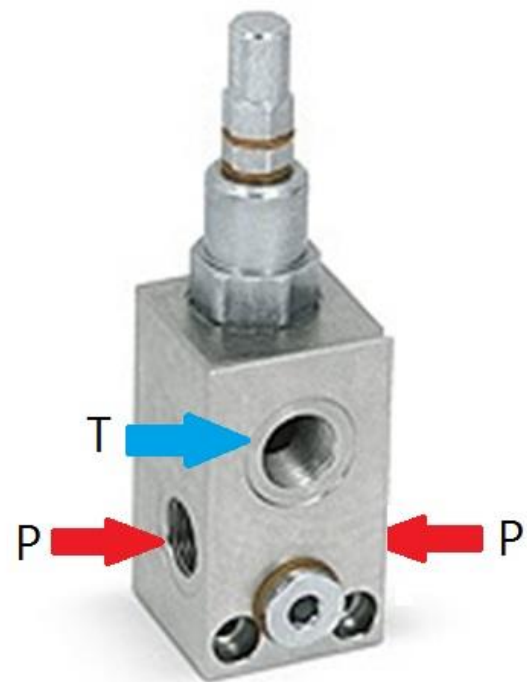
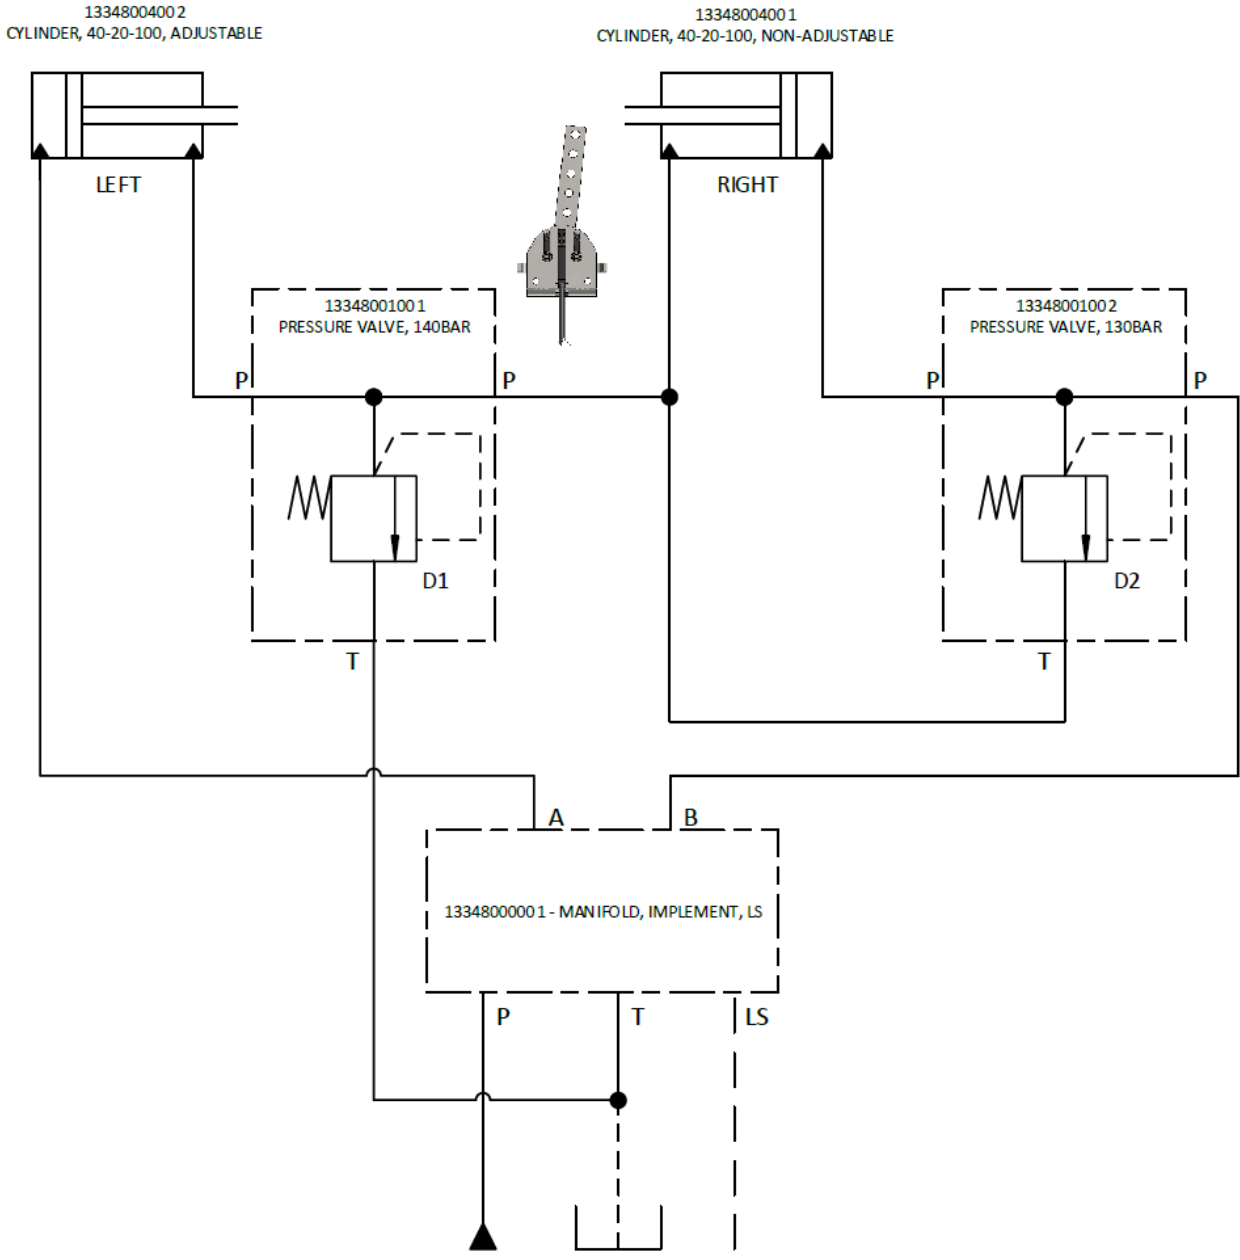

Figure 20 Ports of the pressure relief valve
Figure 22 Hydraulic circuit dual disc with hydraulic track rod
3. Connect the hydraulic hoses as shown in the schematic Figure 22. The pressure relief valves have three ports (Figure 20). Two P-ports and one T-port.